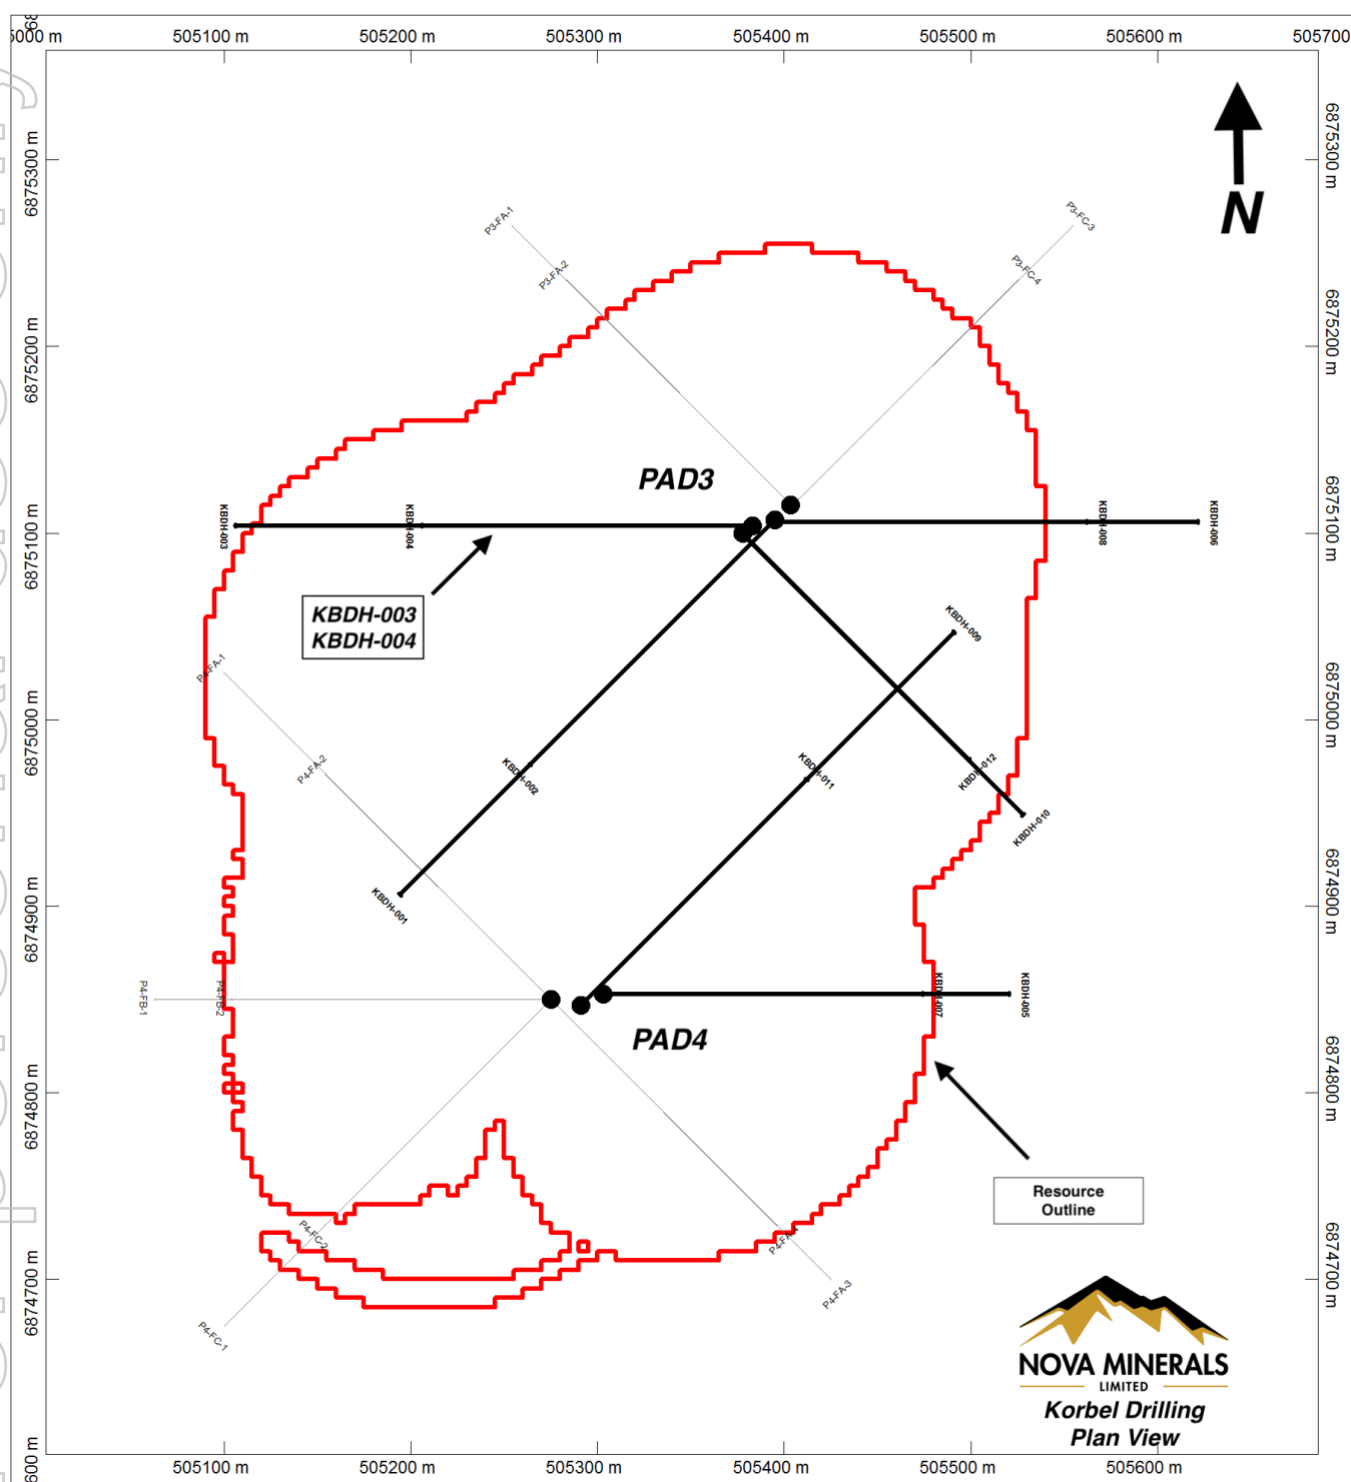

Figure 1. Korbel Drill Layout
- Current drilling focused on Block B (Starter Pit) in Figure 1 with the goal of expanding and upgrading the Resource to expedite project feasibility studies